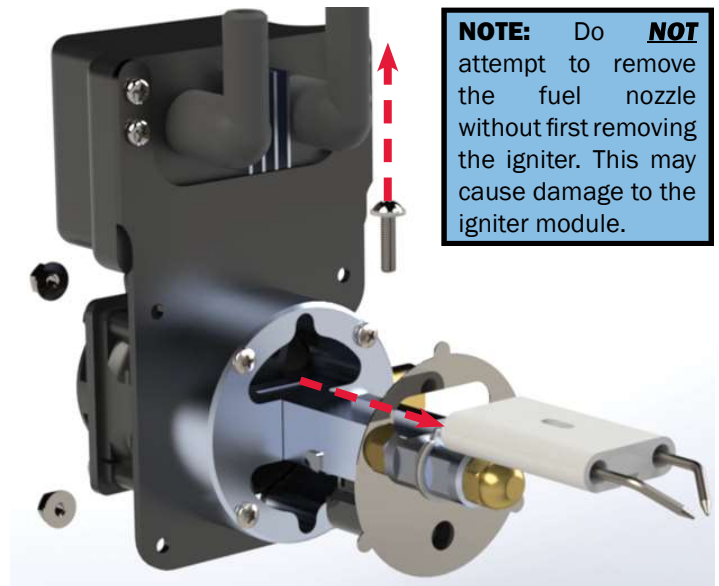

Figure 139
2. Using a $\frac{1}{8}$ " Hex or Allen wrench, remove the bolt securing the igniter assembly to the top of the fuel tower - see Figure 139.
3. Once the bolt has been removed, carefully slide the igniter forward until it can be completely removed from the diesel fuel delivery assembly as shown in Figure 139.